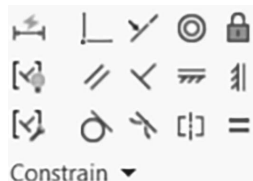

Figure 2.36
- 1 Click a constraint from the Constrain panel, or right-click in the graphics window and choose Create Constraint from the menu and select specific constraint from the menu (see Figure 2.36.)